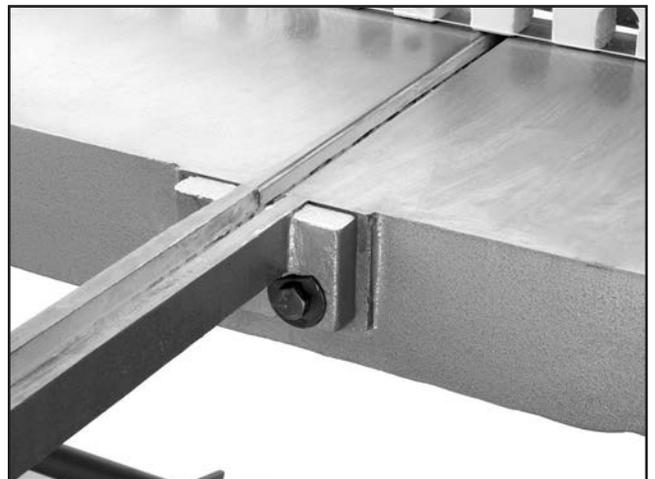

Figure 9. Front extension arm installed.
6. When complete the finished assembly should look like **Figure 9**.